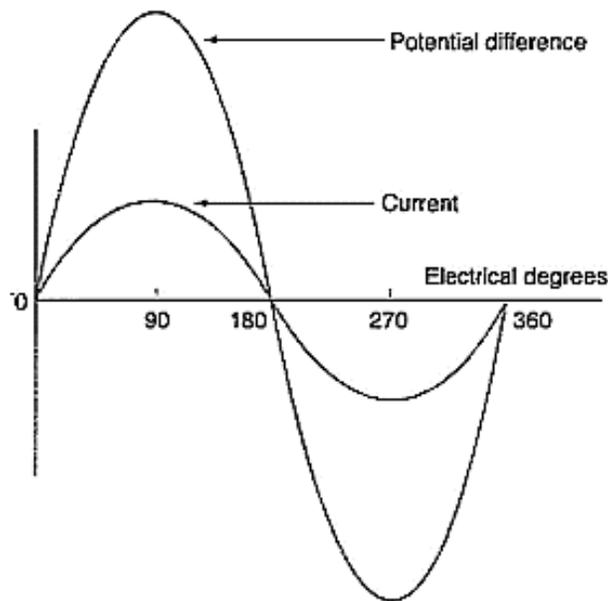

Figure 9.6: Current in Phase with Potential Difference
- 9-31 When you connect an ac power source to a resistor, the potential difference rises and falls, reaching a maximum value first in one direction and then in another. The current in the resistor changes at the same time and in the same direction as the potential difference. Therefore, voltage and current are said to be *in phase* in a resistive ac circuit. The relationship between potential difference and current is shown by the graph in Figure 9.6.